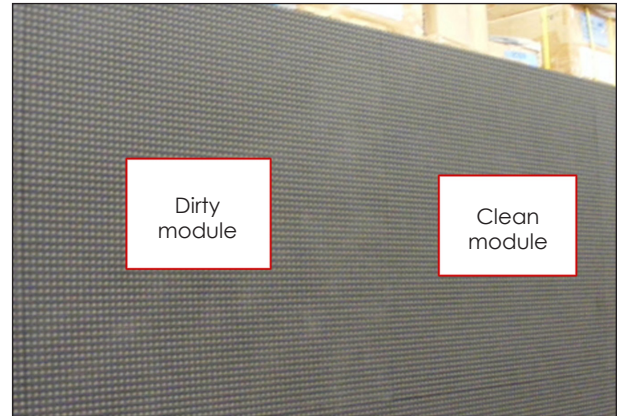

Figure 5: Examine Display
5. Examine the display and touch up areas as needed. Refer to **Figure 5**.